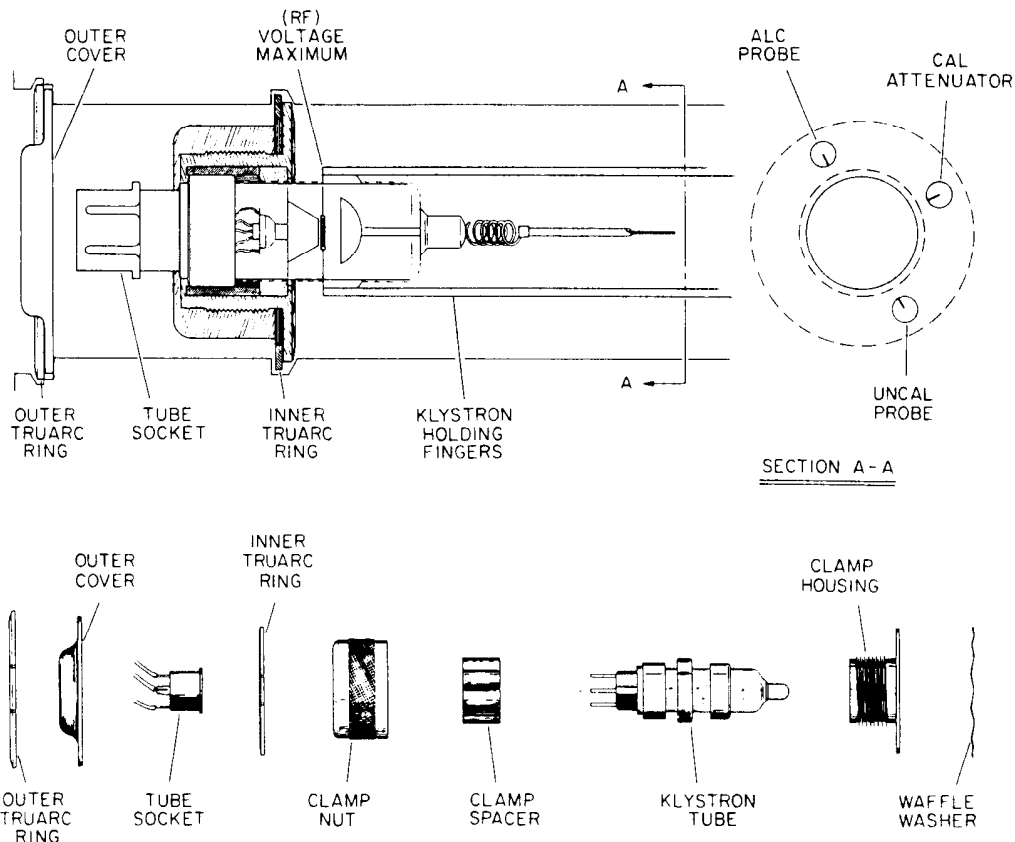

Figure 5-9. Klystron Cavity Assembly, Cutaway View
- c. Using truarc pliers which are available in a repair kit, HP Part No. 08614-800, remove the outer truarc ring from the outer cover of the klystron cavity (see Figure 5-9).
- f. Unscrew clamp nut, lift out clamp saucer, and remove klystron (see Figure 5-9).